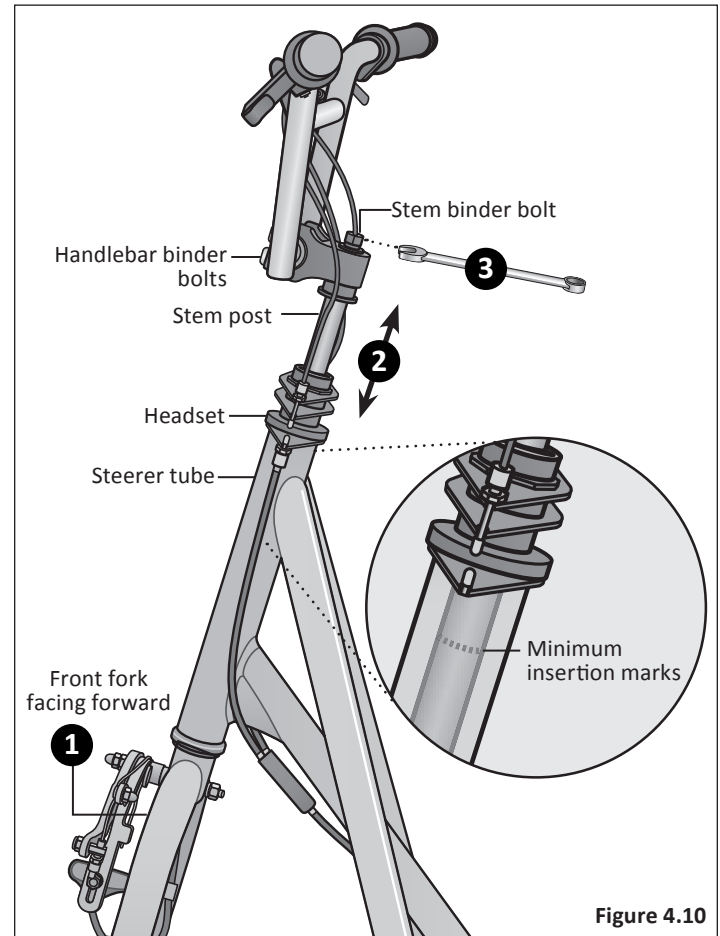

Figure 4.10
- 1 Turn the front fork to face forward. **Figure 4.10**